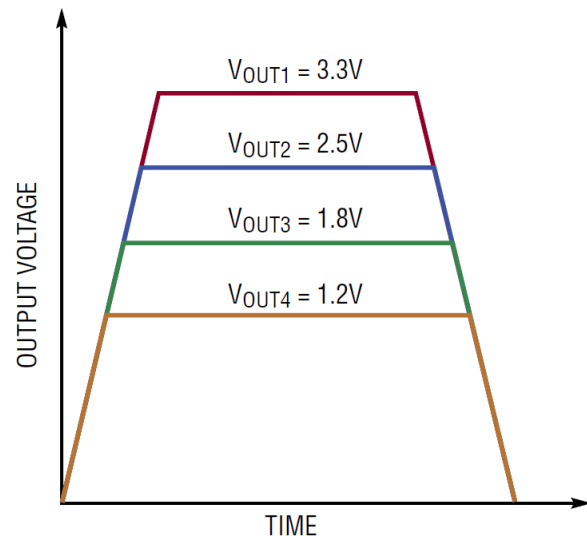

Figure 6. Output Coincident Tracking Waveform
The coincident output tracking can be recognized as a special ratio metric output tracking which the master’s output slew rate (MR) is the same as the slave’s output slew rate (SR), as waveform shown in Figure 6.
The expression shows that the diode voltage decreases (linearly if I₀ were constant) with increasing temperature and constant diode current. Figure 6 shows a plot of V_D vs Temperature over the operating temperature range of the YPM04644.